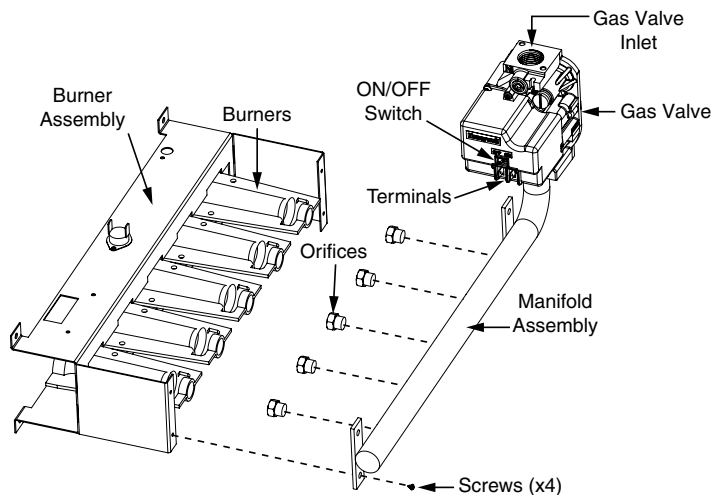

Figure 1. Typical Burner & Manifold Assembly
5. Move the gas valve ON/OFF switch to the OFF position as shown in Figure 1. For VR8205Q2381 gas valves, turn the knob to the OFF position.